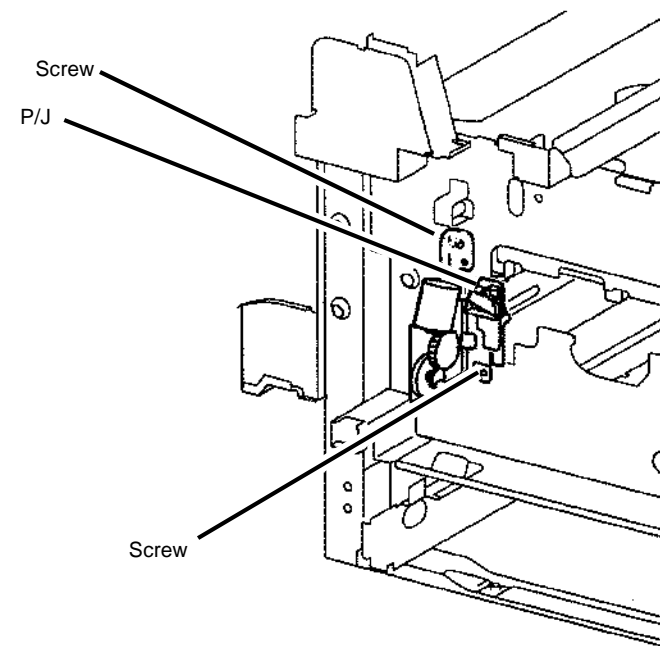

Figure 1 Removing Waste Toner Agitator
6. Remove Waste Toner Agitator (Figure 1).
- b. Remove Screws (2) and remove Waste Toner Agitator.